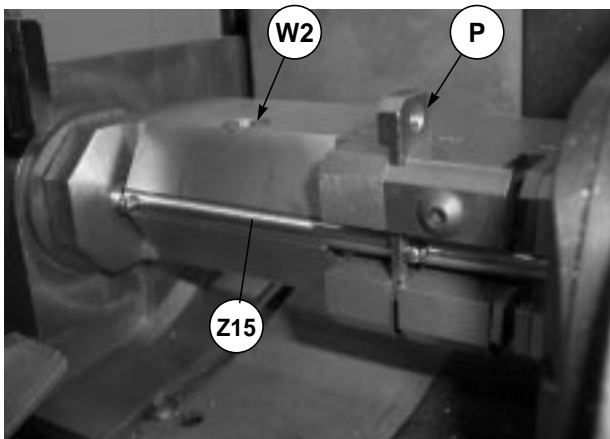

Fig. 61
Template Z13 = fit in place of the cutter (fig. 61).
Template Z15 = fit on the S1-K2 clamp as if it were a key (fig. 61). Use the plate (P) as a point of reference in position 2 with the second pin on the template up against it. Tighten the screw (W2) with the (T4) wrench. Replace the (T4) wrench in its seat.